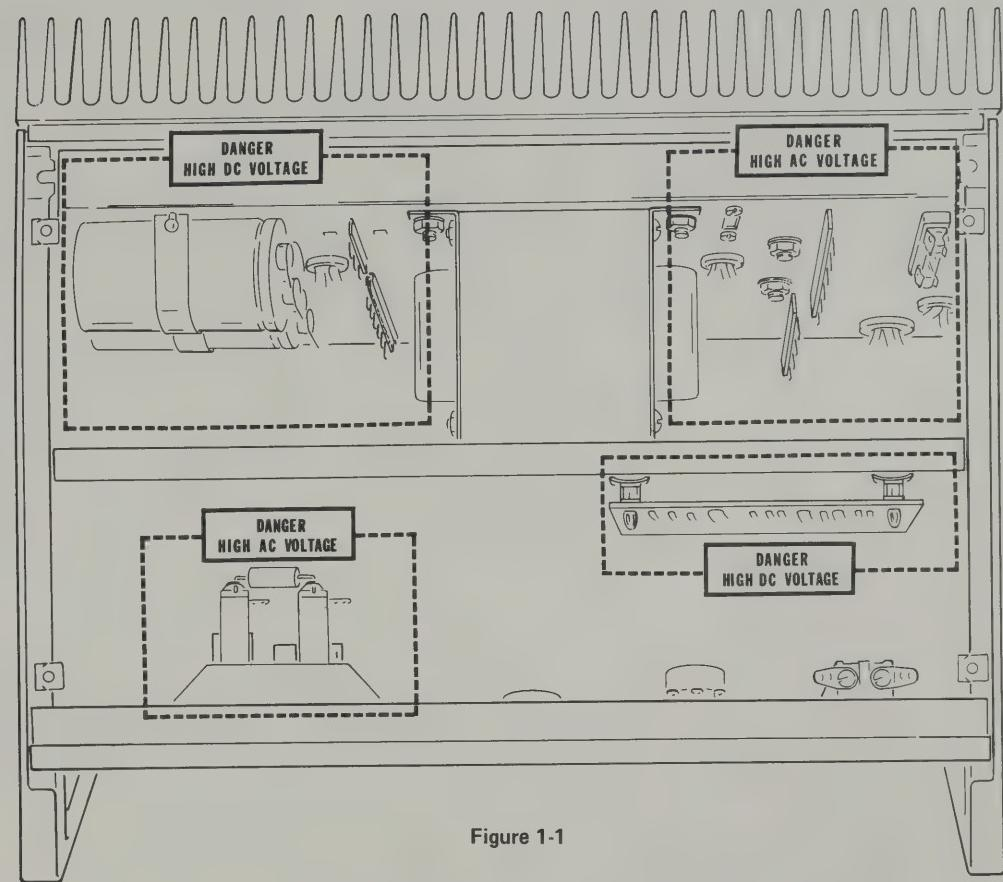

Figure 1-1
**WARNING:** When the line cord is connected to an AC outlet, high AC voltage is present at several places on the chassis. See Figure 1-1. Also, when the Power Supply is turned on, high voltage DC will also be present. Be careful that you do not contact these high voltage areas or an electrical shock will result.